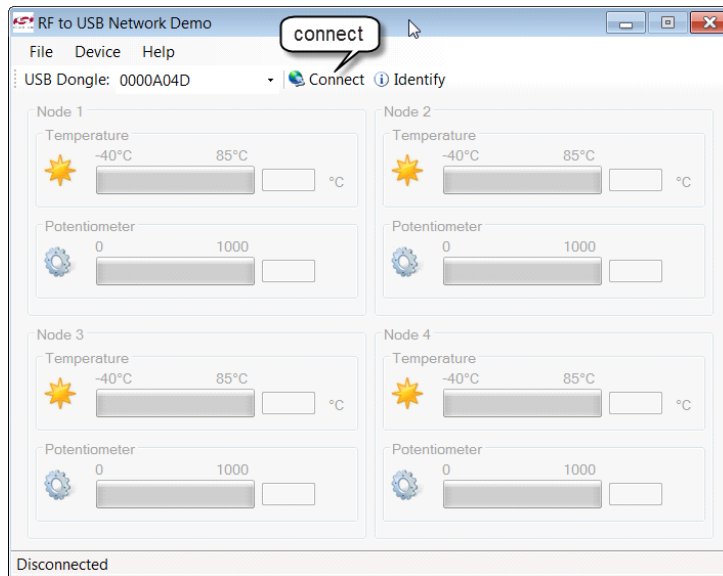

Figure 2. Click Connect
- Click Connect to establish communication with the dongle as shown in Figure 2.